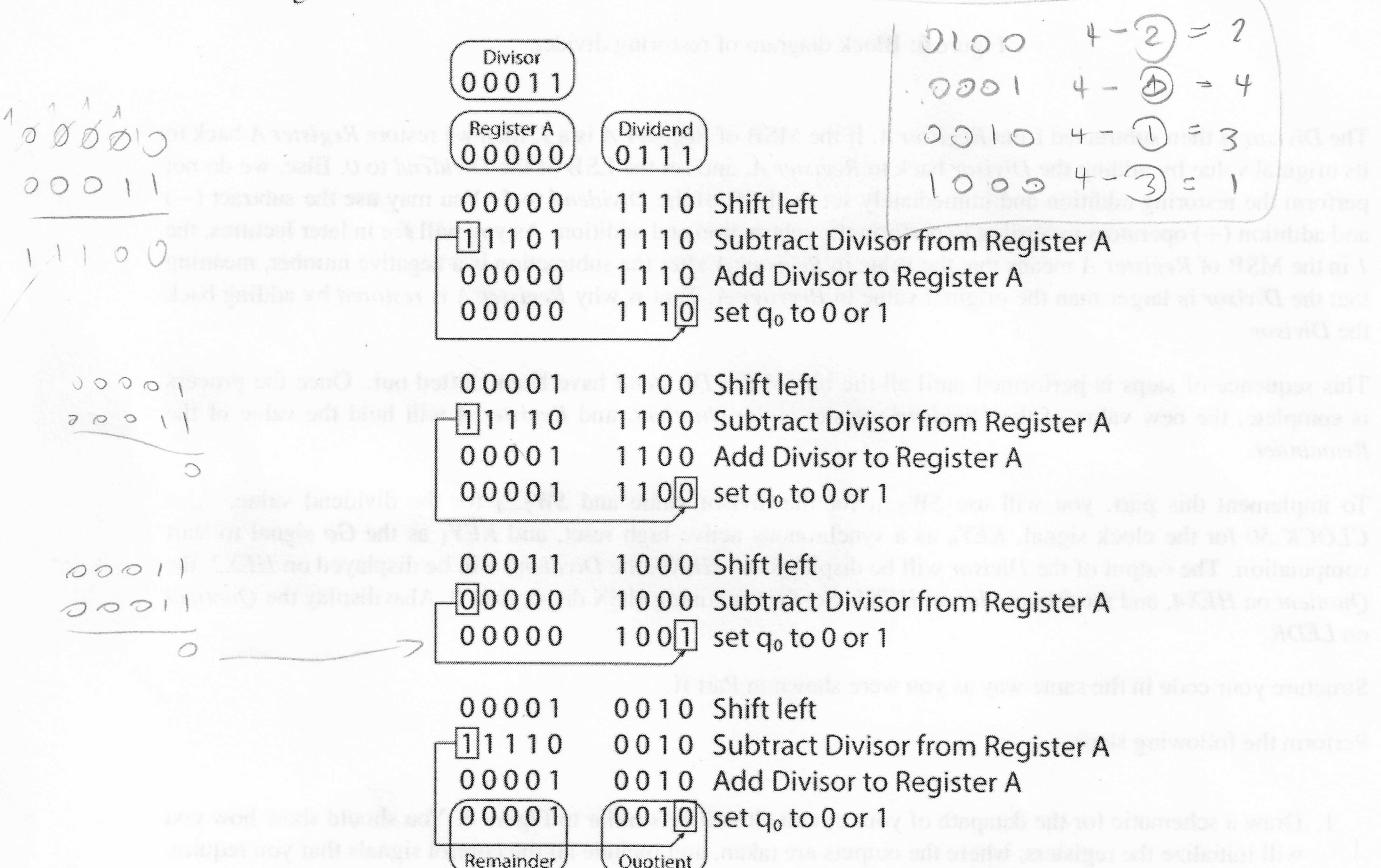
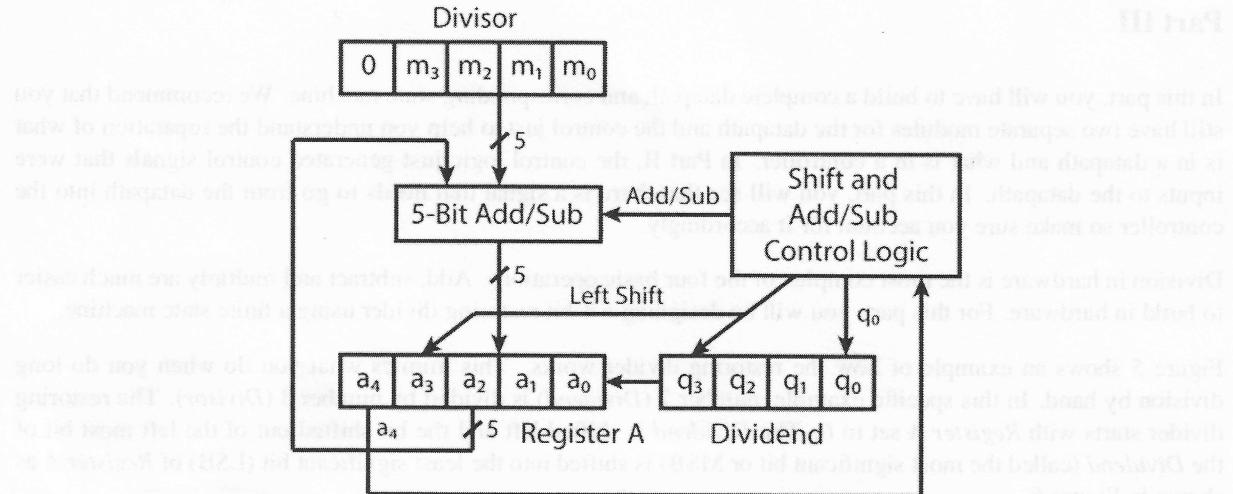

Figure 5: An example showing how the restoring divider works.
Figure 6: Block diagram of restoring divider.
Figure 5 shows an example of how the restoring divider works. This mimics what you do when you do long division by hand. In this specific example, number 7 (*Dividend*) is divided by number 3 (*Divisor*). The restoring divider starts with *Register A* set to 0. The *Dividend* is shifted left and the bit shifted out of the left most bit of the *Dividend* (called the most significant bit or MSB) is shifted into the least significant bit (LSB) of *Register A* as shown in Figure 6.
1. Draw a schematic for the datapath of your circuit. It will be similar to Figure 6. You should show how you will initialize the registers, where the outputs are taken, and include all the control signals that you require. Do not forget the clock and resets. (PRELAB)
2. Draw the state diagram to control your datapath. Check it by hand simulating the example shown in Figure 5. Hand simulation just means to work through the steps using your schematic and state diagram to check whether you can do the required operations before going through the effort of setting up the simulator. This may not catch all bugs, but it is a good step to make sure you have a design that has a chance of working. (PRELAB)
6. Simulate your circuit with ModelSim for a variety of input settings, ensuring the output waveforms are correct. Start with Figure 5 as an example because it shows you all the steps with the values that should be in the registers at each step. (PRELAB)